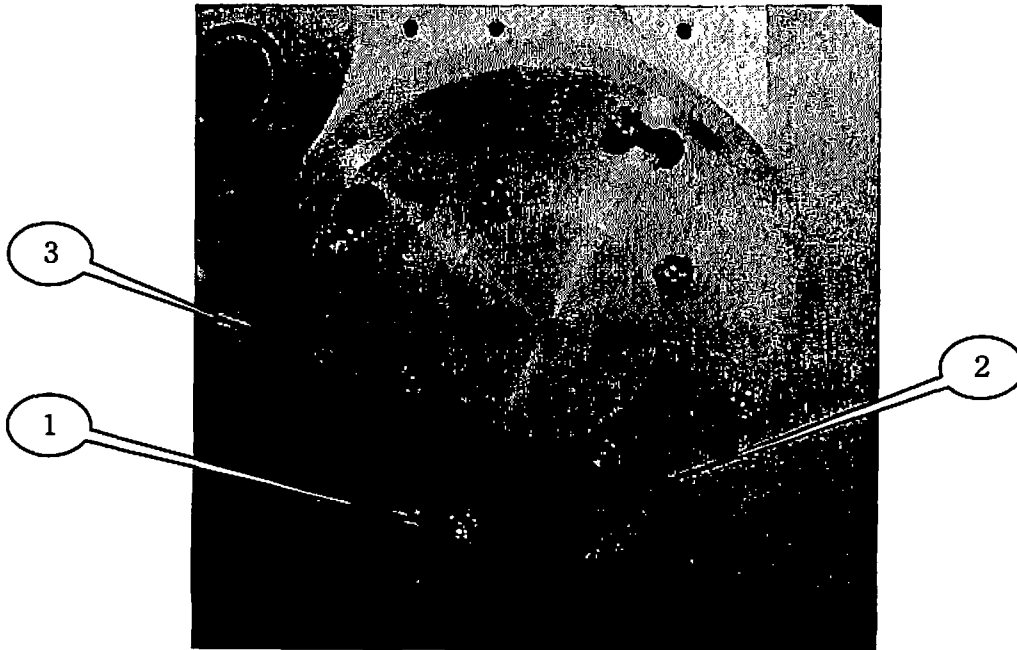

Fig. 6-2 Work Roller
When the machine is shipped from our factory, the work rollers are installed as in Fig. 6-2. Please replace the work rollers regularly before the V-groove is worn out. To replace the work rollers, loosen the four pieces of the bolt (1) and turn the aluminum holder plate to the hole and take off the plate, then, remove the work rollers (3)